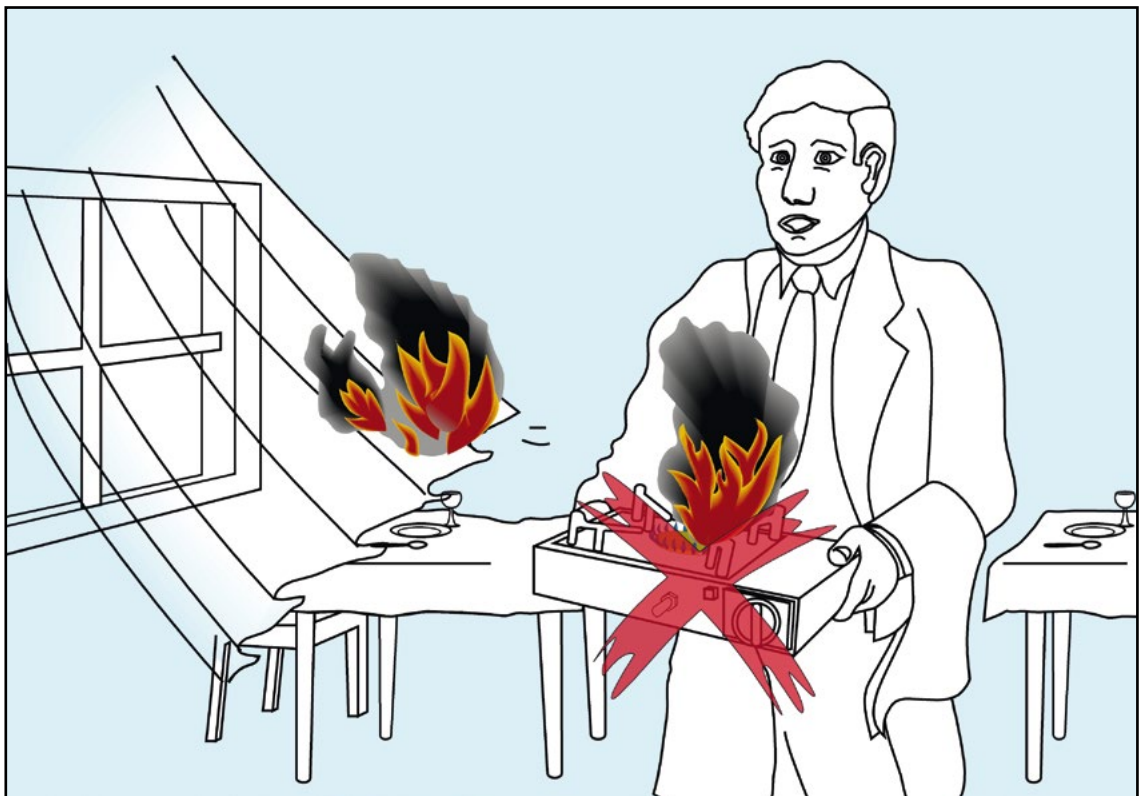

Figure 17:
- Improper handling of systems of this kind (e.g. transport with a burning flame) can cause a fire in a fire-prone environment (Fig. 17).